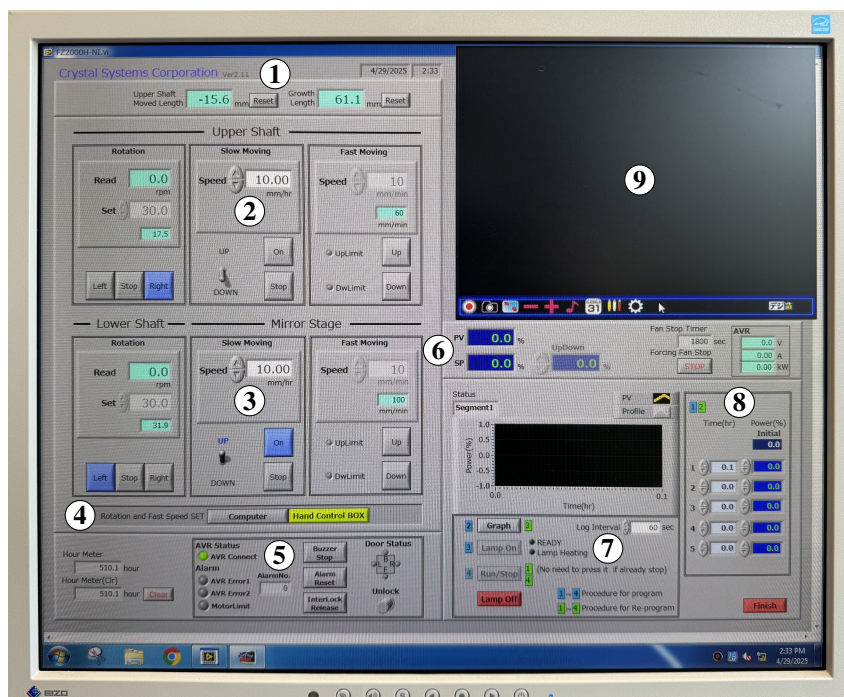

Figure 1: Control board (call-outs numbered in text).
- ④ **Rotation and Fast Speed SET** — Selects whether rotation and fast movement are controlled by the Computer (i.e., the control board) or the hand control box. If Hand Control Box is selected, the physical controls on the box override the corresponding functions on the control board, which will appear greyed out. If Computer is selected, control is returned to the control board and the hand control box becomes inactive. In Figure 1, Hand Control Box is currently selected.
- ⑤ **Status Display** — Displays any alarms, errors, or system messages. Red indicators mean the furnace is not ready. The front door can also be unlocked here by clicking the *Unlock* button. See Section 7 for troubleshooting.
- ⑥ **PV & SP** — PV (lamp output value) shows current lamp power output. SP (lamp output set value) shows the target lamp power. These values should generally match during stable operation.
- ⑦ **Graph & Program Control** — Includes buttons to graph the ramp schedule, toggle the lamp on/off, and start/stop the run. The Run/Stop button allows temporary pauses and mid-run adjustments.
- ⑧ **Power Ramp Schedule** — Defines the programmed lamp power settings. The “Initial Power” sets the baseline value, and all subsequent values are offsets added to this baseline. See Appendix B for example configurations.
- ⑨ **Live Camera Feed** — Displays a real-time view of the ampule and molten zone. Additional controls for recording and camera settings are available at the bottom of the window.